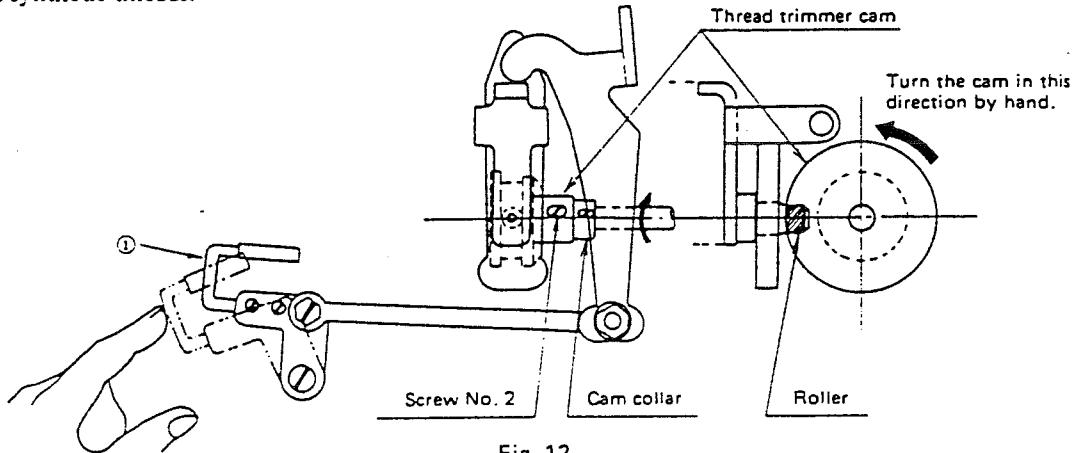
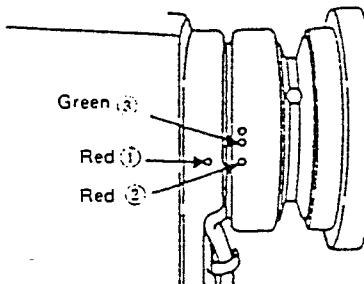

Fig. 12
Fig. 13
Tilt the machine head, manually turn the handwheel until the thread take-up lever almost reaches its highest position, and press thread take-up picker ① in Fig. 12 to the right by finger. This causes the cam roller to fit in the groove of the thread trimmer cam. With this condition maintained, turn the handwheel in the direction opposite to the normal rotational direction, and you will find a position in which the handwheel no longer turns. Then, adjust the cam timing so that marker dot ① (Fig. 13) on the machine arm is aligned with marker dot ② (Fig. 13) on handwheel as shown in Fig. 13. This provides the proper cam timing for cotton and synthetic threads.
Loosen screw No. 1 first, and then screw No. 2 (Fig. 12), and align red marker dot ② on the handwheel with red marker dot ① on the machine arm.
Fit the cam roller in the groove of the cam while pressing thread take-up picker ① (Fig. 12) to the right. Manually turn only the cam (do not turn the hook driving shaft) in the direction opposite from the normal rotation of the hook driving shaft (see the arrow in Fig. 12) until a position in which the cam goes no further is reached. In
this position, press the cam against the thrust collar of the thread trimmer cam (Fig. 12), and retighten the screw No. 2 first and then the screw No. 1. If the cam collar has not been moved, press the thread trimmer cam against the cam collar, and retighten the screw No. 2 first and then the screw No. 1.
- ① Align marker dot ① (Fig. 13) on the machine arm with green marker dot ③ (Fig. 13) on the handwheel.
- ② Use the soft start function for the first starting stitch.
- ⑥ Align red dot ② (Fig. 13) on the handwheel with red dot ① (Fig. 13) on the machine arm.
Check whether the tension disc No. 2 floats 0.5 to 1 mm (0.019" to 0.039") when thread take-up picker ① (Fig. 12) is pressed to the right with the thread take-up lever located slightly below its highest position and the presser foot lifted.